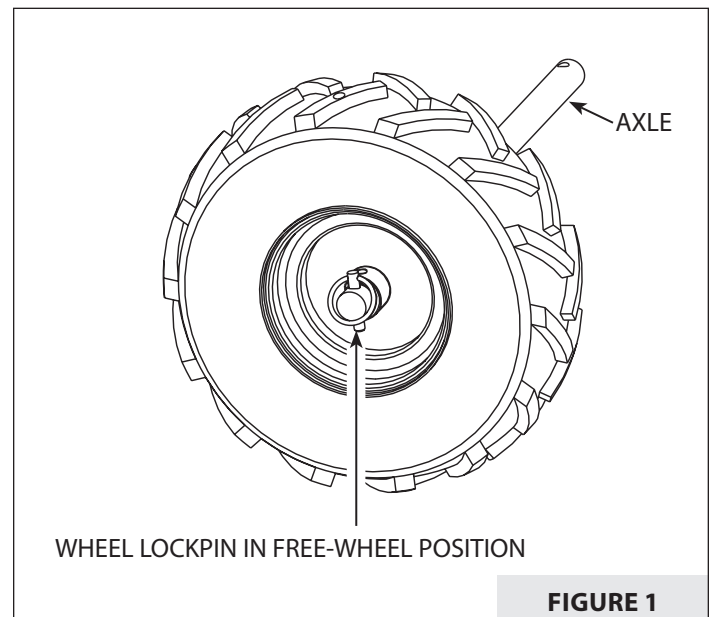

FIGURE 1
- a. Attach the loose wheels, in the box, onto the unit with the wheel lockpins in the **free-wheel position**. Slide the wheel all the way onto the axle and insert a (I) lockpin through the axle hole only. **SEE FIGURE 1.**